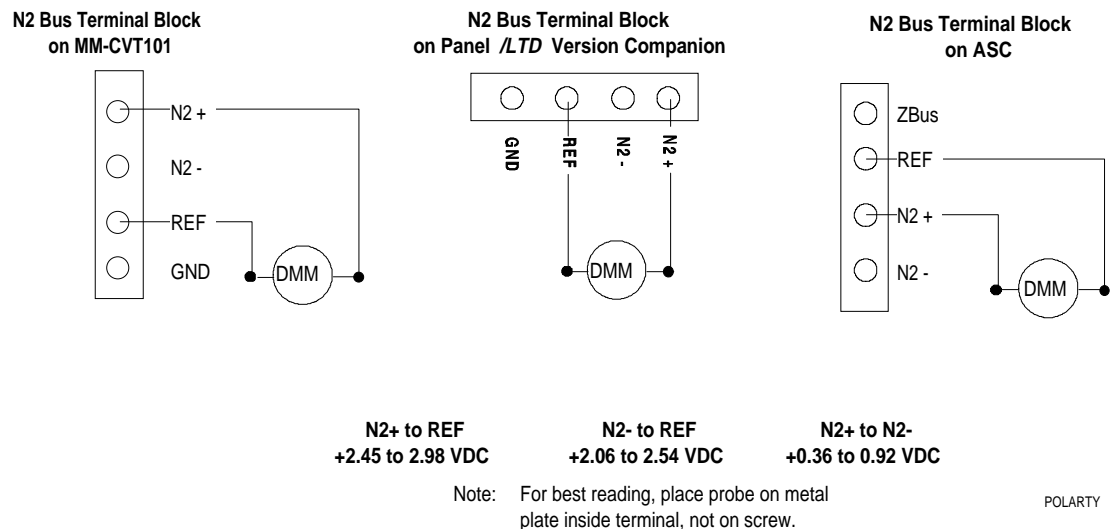

Figure 27: Test for N2 Bus Shorts, Crossed Wires, Grounds
Follow these steps, referring to Figure 27:
2. Connect the Digital Multi-Meter across the N2+ and REF screws on the N2 terminal block (Figure 27). Write down the DC voltage reading. Repeat for N2- and REF, then for N2+ and N2-. Compare the voltages you read on the DMM to the following values:
3. Check the voltage and polarity of the N2 DC bias voltages at the FHI. Do so by connecting the DMM across N2+ and REF (Figure 27). Write down the reading. Repeat for N2- and REF, then for N2+ and N2-. Compare the voltages you read to the following values: